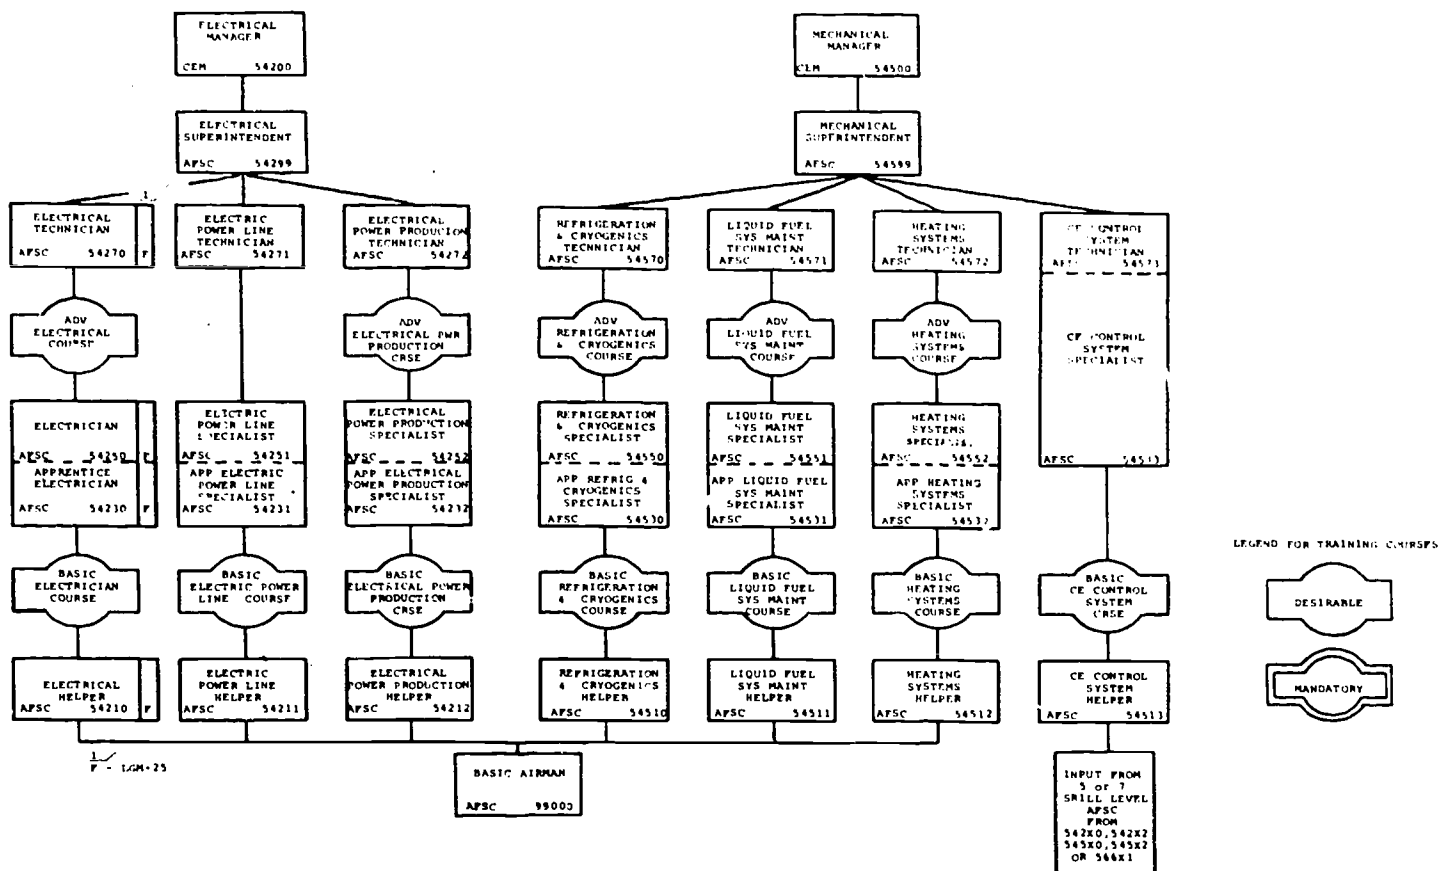

Figure 1-2. Mechanical/electrical career field chart.
The chart is a graphic presentation of the 54 career field and is shown in figure 1-2. As you can see, the 54 career field is made up of a number of Air Force specialties. Your specialty, as you well know, is electrician, AFSC 542X0. By observing the chart, you can see just how you fit into the picture. If you are a 3-level electrician, notice that your present position is Apprentice Electrician, AFSC 54230. It is shown just below the position you are working, AFSC 54250. There are pay grades for each skill level. For example, the pay grade for an electrician is E3, E4, or E5.
1. What is the AFSC of each step up the career field ladder from basic airman to manager in your career field? Use figure 1-2.